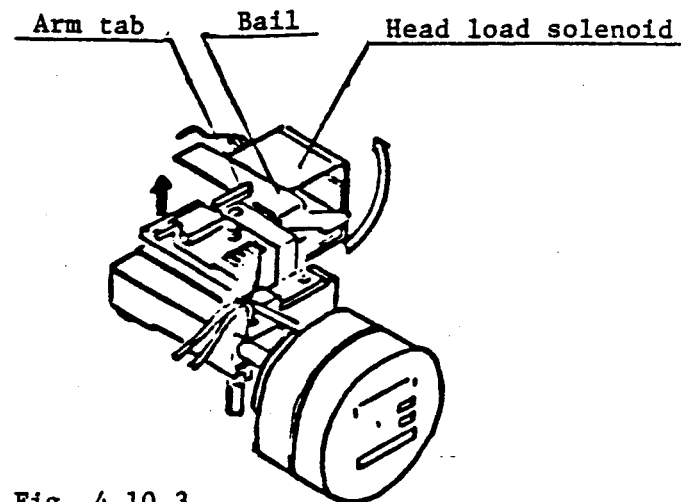

Fig. 4.10.3
7. Remove head load solenoid mounting screws on the back side of frame and slightly lift the carriage arm tab by a finger. Remove the head load solenoid while turning it as shown in fig. 4.10.3.